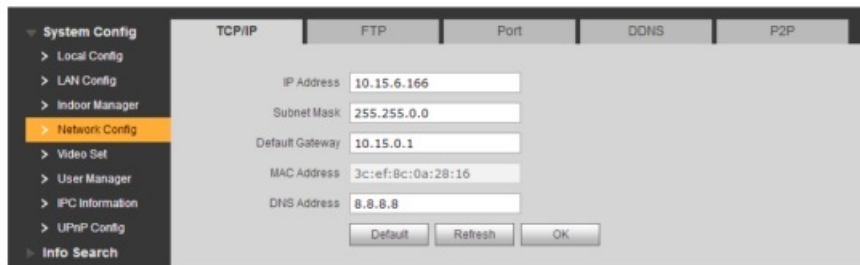

Figure 3-7
Step 4. System Config>Network Config>TCP/IP. See Figure 3-7. Modify VTO IP address to be planned IP address. See Ch 4.2.4.1.